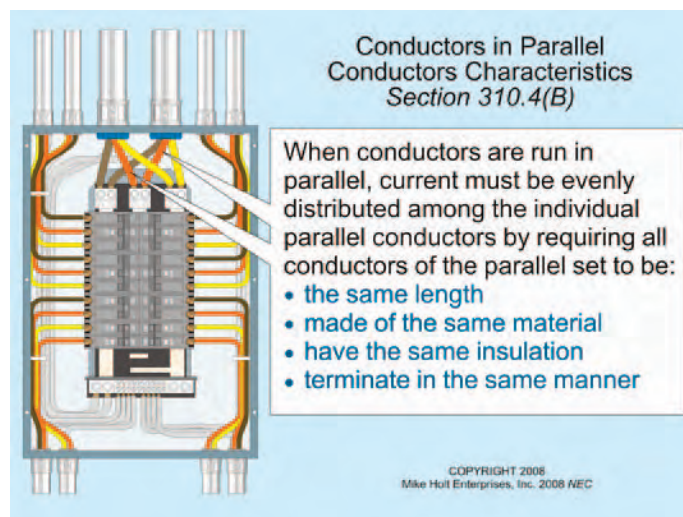

Figure 310-1
(B) Conductor Characteristics. When circuit conductors are run in parallel, the current must be evenly distributed between the individual parallel conductors by requiring all circuit conductors within a parallel set to: **Figure 310-1**
- (1) Be the same length.
- (2) Be made of the same conductor material (copper/aluminum).